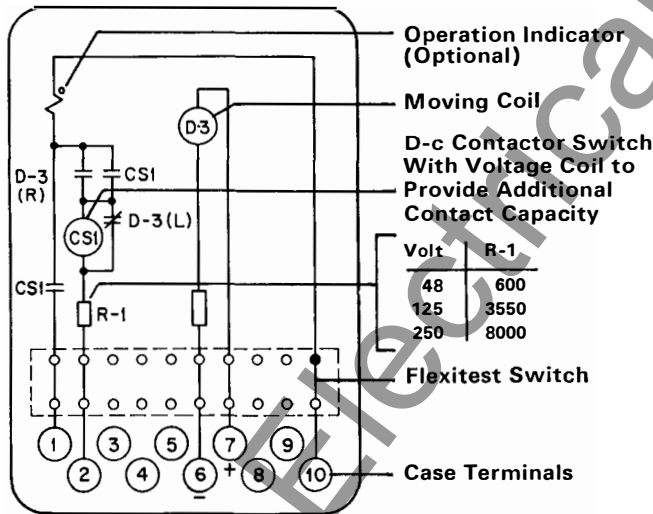

Fig. 7
In applications of this type where the relay is used to regulate a load rather than to initiate circuit interruption on overload, a dc contactor switch (CS) with a voltage coil is mounted within the relay case (see Figure 7). When contact D-3(R) closes, CS closes trip circuit and seals-in around D-3(R) until D-3(L) closes to prevent excessive operation or "pumping" of D-3(R) on small load fluctuations. If the contact rating of CS is insufficient, use the standard D-3 relay and an additional SG relay (see Figure 4).